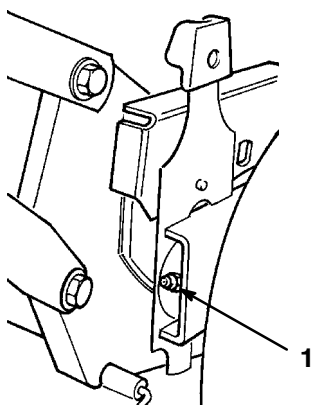

Figure 27
- Wipe the grease fittings with a clean rag (Fig. 27).
- Install a grease gun onto the fitting and gently apply two or three pumps of #2 multi-purpose lithium base grease (Fig. 27).